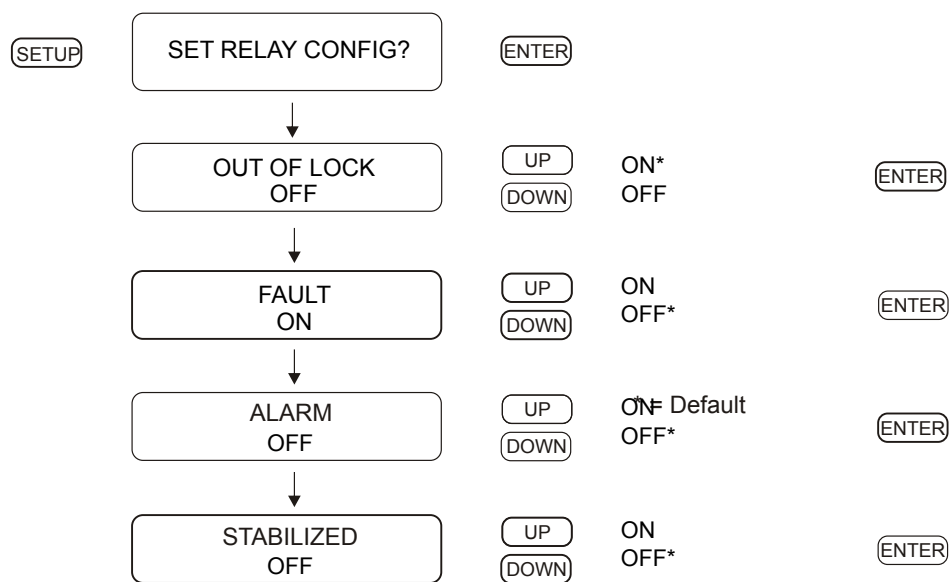

Figure 8.7: Relay Setup
Use the “SET RELAY CONFIG?” menu to configure how relay B responds to several clock conditions. Clock conditions include (1) out of lock, (2) faults, (3) alarms, (4) stabilization, and (5) failsafe. These are described in the setup procedure shown in Figure 8.7. Alarms consist of any outside influence, such as a sudden change in GNSS position1, that may affect the operation of the clock. Faults consist of an internal hardware problem with the clock, such as an oscillator failure, or a GNSS receiver failure. See page 33 for a description of fault conditions. Failsafe refers to the relay faulting when the clock loses power. All of these events may be configured to trigger the relay separately or concurrently. The relay may also be configured to actuate with a programmable pulse, which is discussed below.
To work with built-in programmable pulse features, set up the relay jumper (JMP10) as discussed in Section 5.2.4, then set up the programmable pulse mode as discussed in Section 8.9. Configuration settings described in Figure 8.7 do not apply to the relay when the relay jumper (JMP10) is set for Programmable Pulse. However, the front-panel annunciator LEDs and other indications still apply to out-of-lock condition, faults, and alarms when the relay jumper is set for programmable pulse.